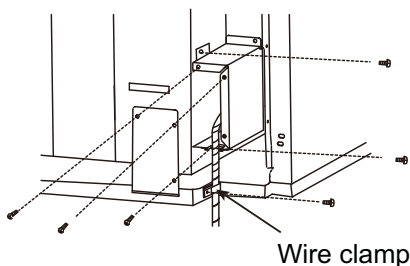

Fig.16-Wire Clamp
* Use wire clamp to attach power cord to basepan.Secure with screws (included) See Fig.16.